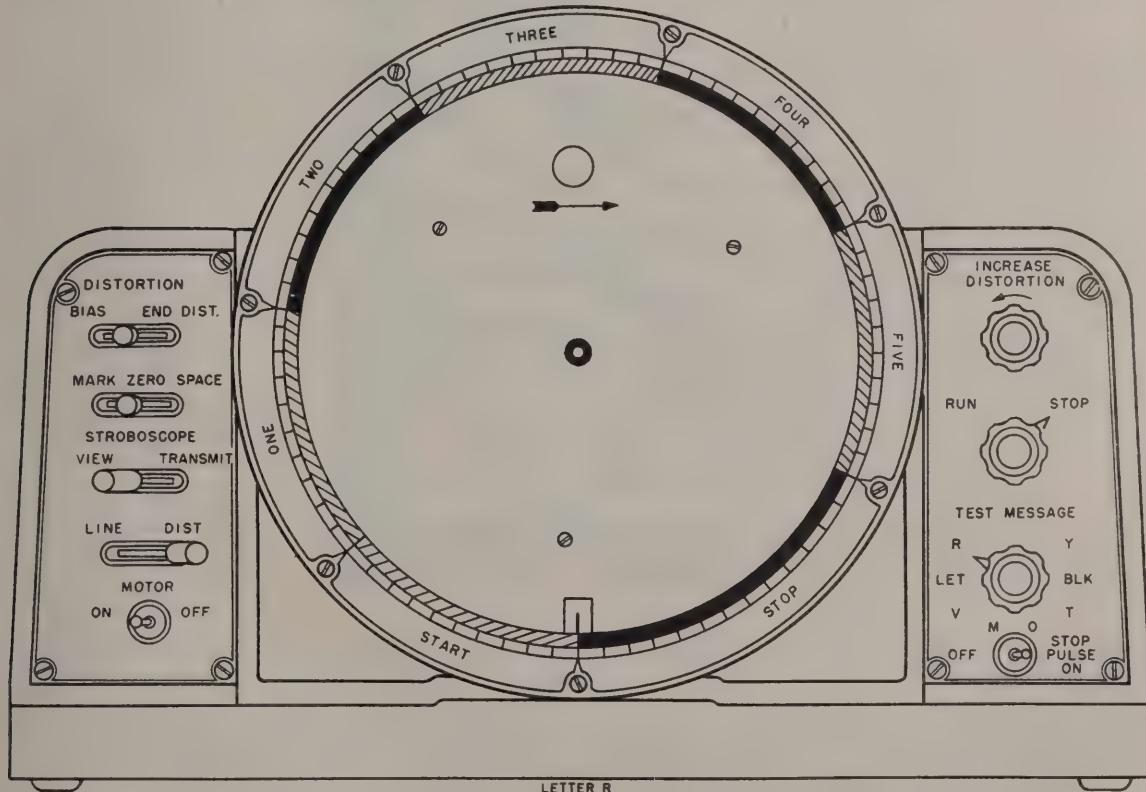

Figure 13. Diagrammatic representation of marking impulses for letter R.
(2) With the switch in the R position, segments 2, 4, and the STOP segment are connected to the signal line. (See fig. 13).
(3) With the switch on Y, segments 1, 3, 5, and the STOP segment are used.
(4) With the switch on T, segment 5 and the STOP segment are connected to the line. This position is used in combination with the STOP PULSE switch (*i* below) with the stop impulse OFF when a single marking impulse is to be transmitted.
(5) With the switch in position O, segments 4, 5, and the STOP segment are connected to the signal line.
(6) With the switch in position M, segments 3, 4, and 5 and the STOP segment are connected to the line.
(7) With the switch on V, segments 2, 3, 4, 5, and STOP are connected to the line.
(8) With the switch on LET, segments 1, 2, 3, 4, 5, and STOP are connected to the line.
(9) With the switch on BLK, the STOP segment is the only segment connected to the signal line.
i. STOP PULSE ON-OFF SWITCH. The STOP PULSE switch is a double-pole double-throw toggle switch used for disconnecting the stop impulse. This permits transmitting a single continuous marking impulse of code length when the switch is turned OFF by setting the character selecting switch to T. (See *h*(4) above.)